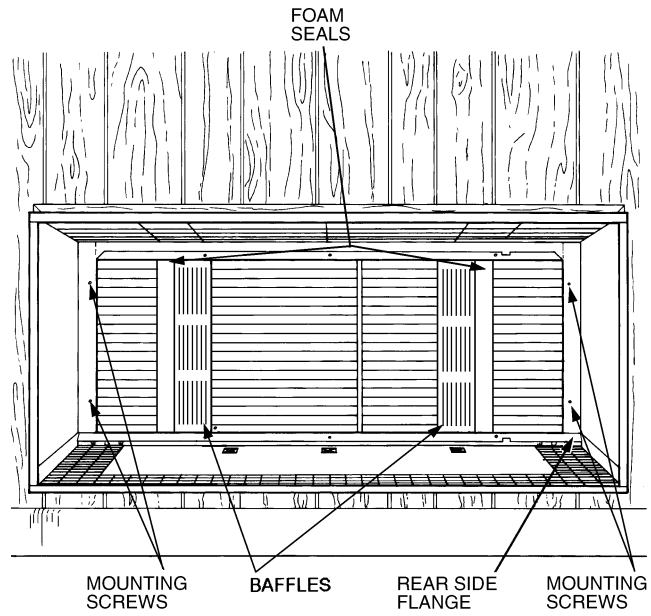

Fig. 3 — Securing Grille to Sleeve
2. While holding the grille, line up and insert the 4 screws into the respective keyhole slots on rear side flanges of sleeve. See Fig. 3 and 4.